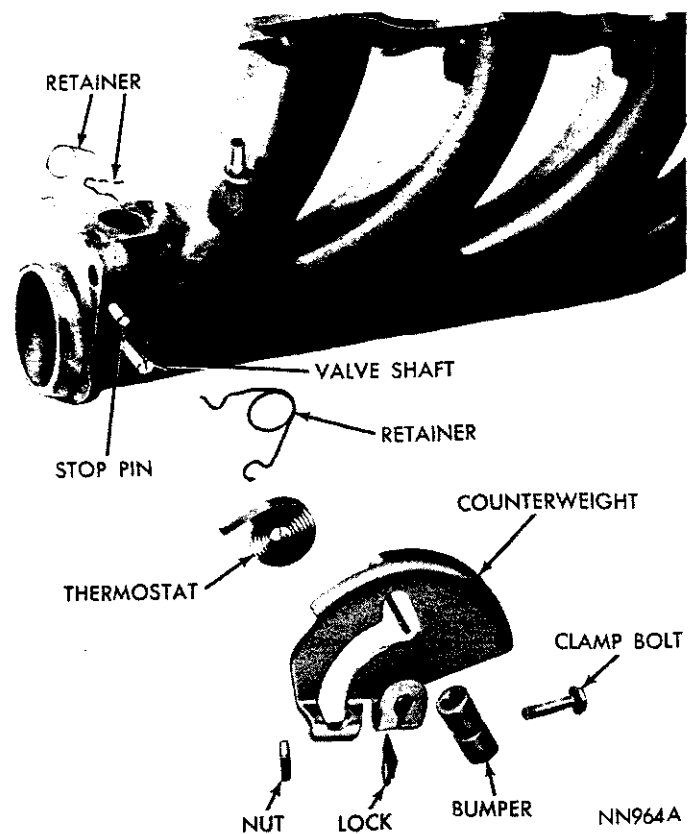

Fig. 16—Heat Control Valve—Disassembled (426 Hemi Engine)
(1) Remove counterweight from outer end of valve shaft by loosening clamp bolt (Fig. 16).
(2) Unhook thermostat from stop pin and slide from valve shaft slot.
(3) If fabric bumper on counterweight is worn, it may be replaced by sliding it off the tab and sliding on a new one.
(1) Be sure shaft retainers (Fig. 16) are in place in grooves in valve shaft and stop pins. Then, turn shaft in the extreme **counterclockwise** position.